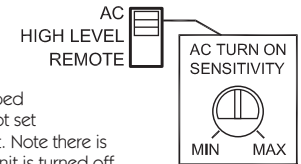

Fig. 2
- c. AC Mode using Smart Engage™ - This setting is intended for vehicles that do not have DC voltage on the speaker leads. This setting requires adjusting the sensitivity of the re-Q5 to turn on when music signal is present on the speaker input wires. Set the Input Select Switch to AC and the re-Q5 should turn on with signal from the head unit. The re-Q5 is shipped with the sensitivity set to the maximum level. To ensure the sensitivity is not set too high for the application, confirm the re-Q5 turns off with the head unit. Note there is approximately a 15 second delay for the re-Q5 to turn off after the head unit is turned off. The delay is to prevent the unit from shutting off when there are pauses in the music or when changing tracks or CDs. If the re-Q5 does not turn off after 15 seconds, adjust the Turn On Sensitivity knob counter-clockwise in small increments until the re-Q5 turns off after the 15 second delay. (Fig. 2)